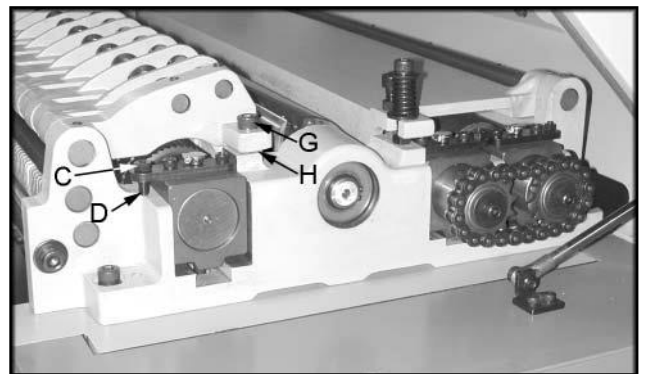
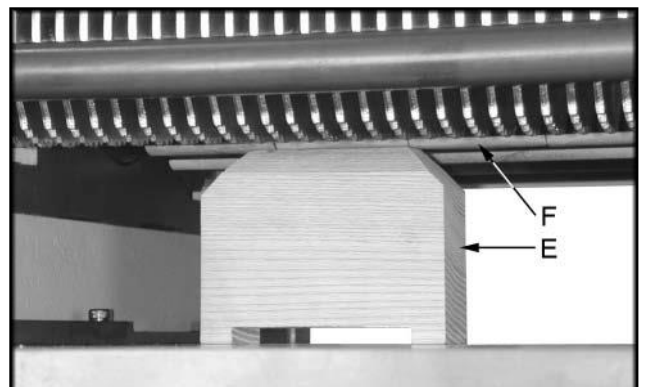

Figure 15
Figure 16
3. Remove feeler gauge and place wood block under the left side of in-feed roller. The top of wood gauge should just contact the in-feed roller. If it doesn't, loosen jam nut (C, Figure 15) and turn the adjusting screw (D, Figure 15) to raise, or lower the in-feed roller until it contacts wood gauge. Repeat for opposite side of the in-feed roller.
3. Remove feeler gauge and place wood gauge (E, Figure 16) under the left side of chipbreaker (F, Figure 16). The top of the wood gauge should just contact the chipbreaker. If it doesn't, remove the socket head cap screw (G, Figure 15) and remove washer (H, Figure 15), or replace with shim of proper thickness to raise, or lower the chipbreaker until it contacts the wood gauge.